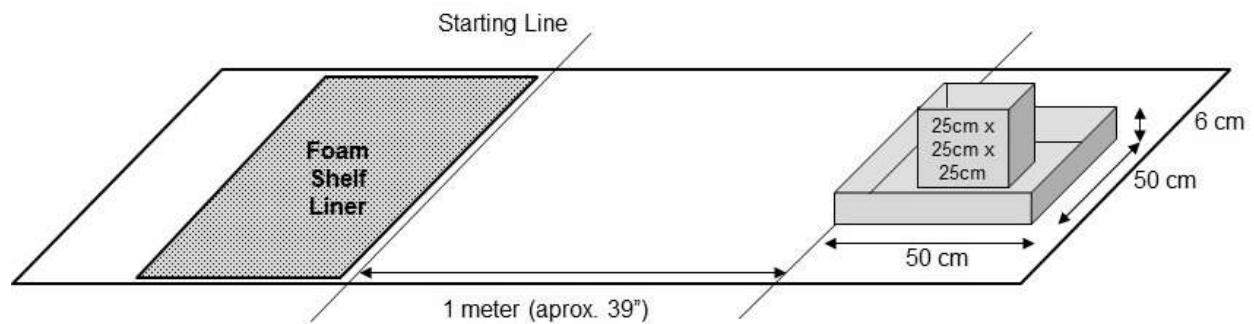

Figure 23 - Ping Pong Shot Put Course Layout
- (1) Ping pong balls are loaded on the robot prior to starting a trial. However as the loading mechanism is emptied more balls may be added provided the team members do not touch the robot or affect its behavior
- d) The event setup (see Figure 23)
- (1) **No tape will be used** as a result of this new method of preventing robot slipping.